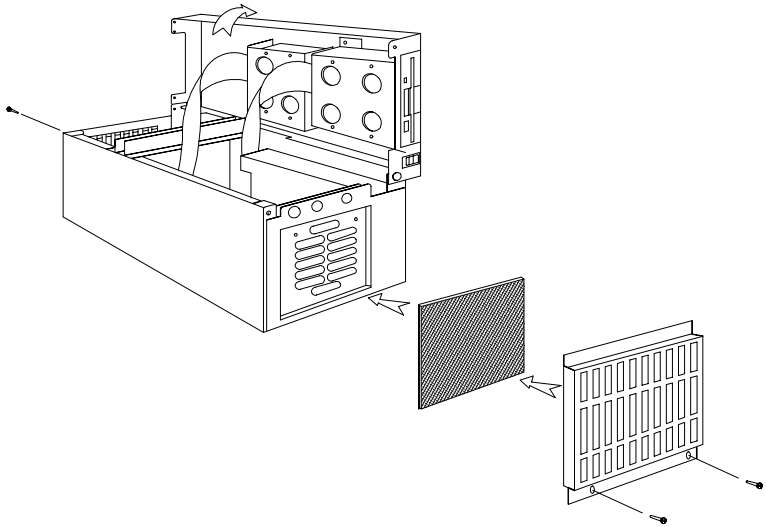

**Figure 2-4: Wall-mounting the unit**
1. Attach the brackets to the chassis by inserting the six screws (provided in your kit) as shown in Fig. 2-4.